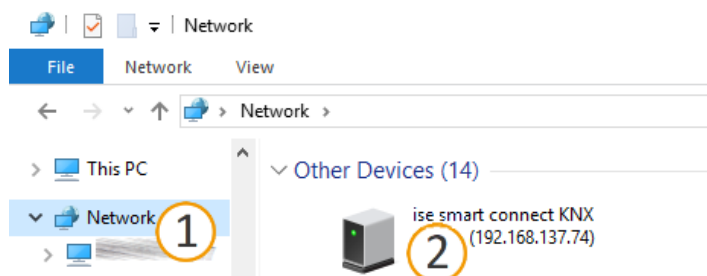

Figure 22: Accessing the device website via the network environment
- When you use the Microsoft Windows, select the device in the network environment in the <<Other devices>> category (see figure 22, Pos. 1): Double click on the device icon (see figure 22, item 2).